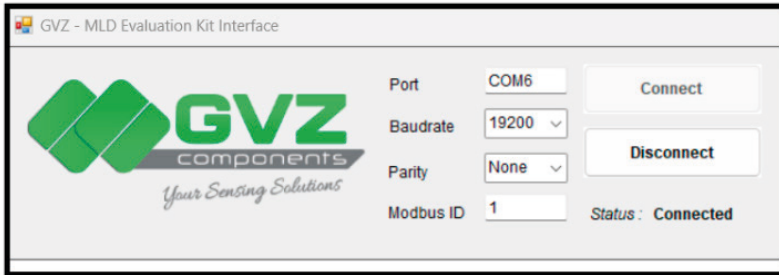

Figure 5
4. In MLD-EK select the correct COM_* and set the MLD default values in Serial Port Setting as shown (Figure 5)